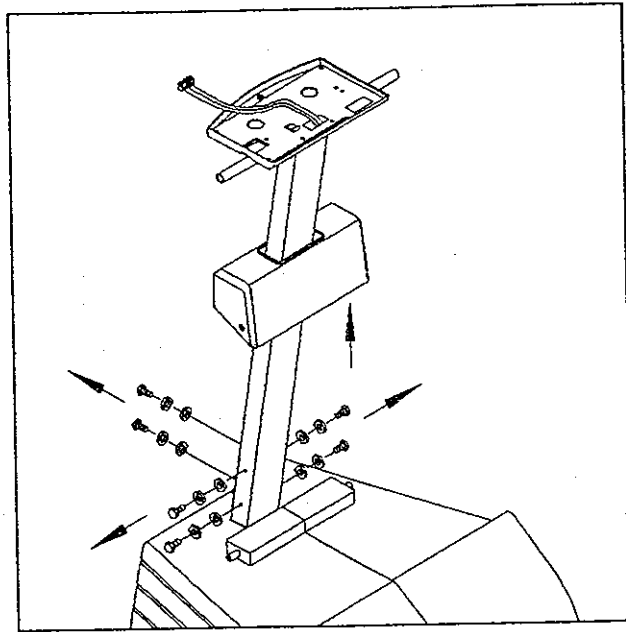

Fig. 5
5. Remove the six screws, spring washers and washers securing the front post (see Fig. 5).